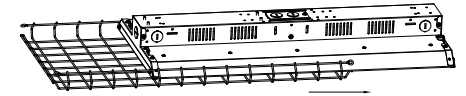
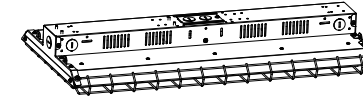

Figure 8
Figure 9
- Step2. Mount the wire guard on the lamp (Figure 8), and fix it with screws (Figure 9)